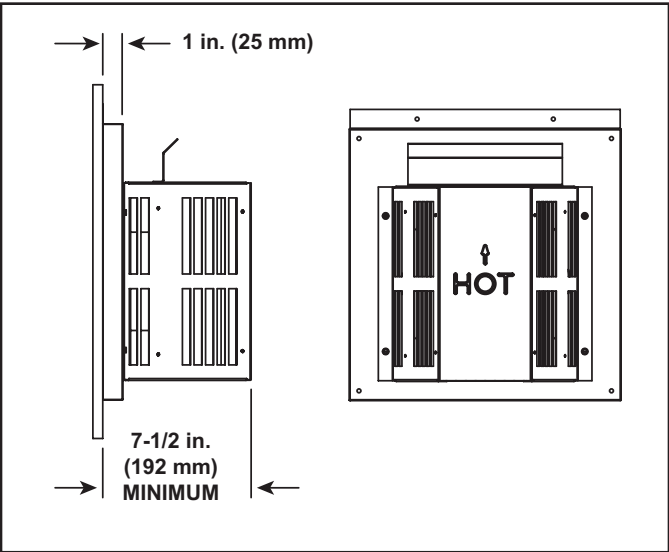

Figure 10.18 Termination Cap
- **DO NOT** remove the heat shields attached to the wall shield firestop and the horizontal termination cap (shown in Figure 10.18).
There are two sections of the heat shield. One section is factory-attached to the wall shield firestop. The other section is factory-attached to the cap. See Figure 10.18. If the wall thickness does not allow the required 1-1/2 in. (38 mm) heat shield overlap when installed, an extended heat shield must be used.